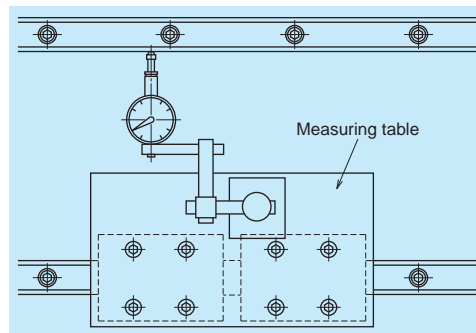

Fig. 9.15 Measuring parallelism
③ If the mounting face of the machine base where the adjusting side rail is installed also has a shoulder, repeat the steps ① - ②.
④ If there is no shoulder on the mounting face of the machine base for the adjusting side rail: Secure a measuring table to the slides of the reference side rail (Fig. 9.15). Use this to adjust the parallelism of the adjusting side rail. Check parallelism of the adjusting side rail with a dial gauge from one end of the rail, tightening the bolts one by one.
The measuring table is more stable if secured to two bearings, but one bearing is sufficient. Parallelism between two rails can also be checked by the same method in Fig. 9.15 when there is a shoulder on the face where the adjusting side rail is installed.